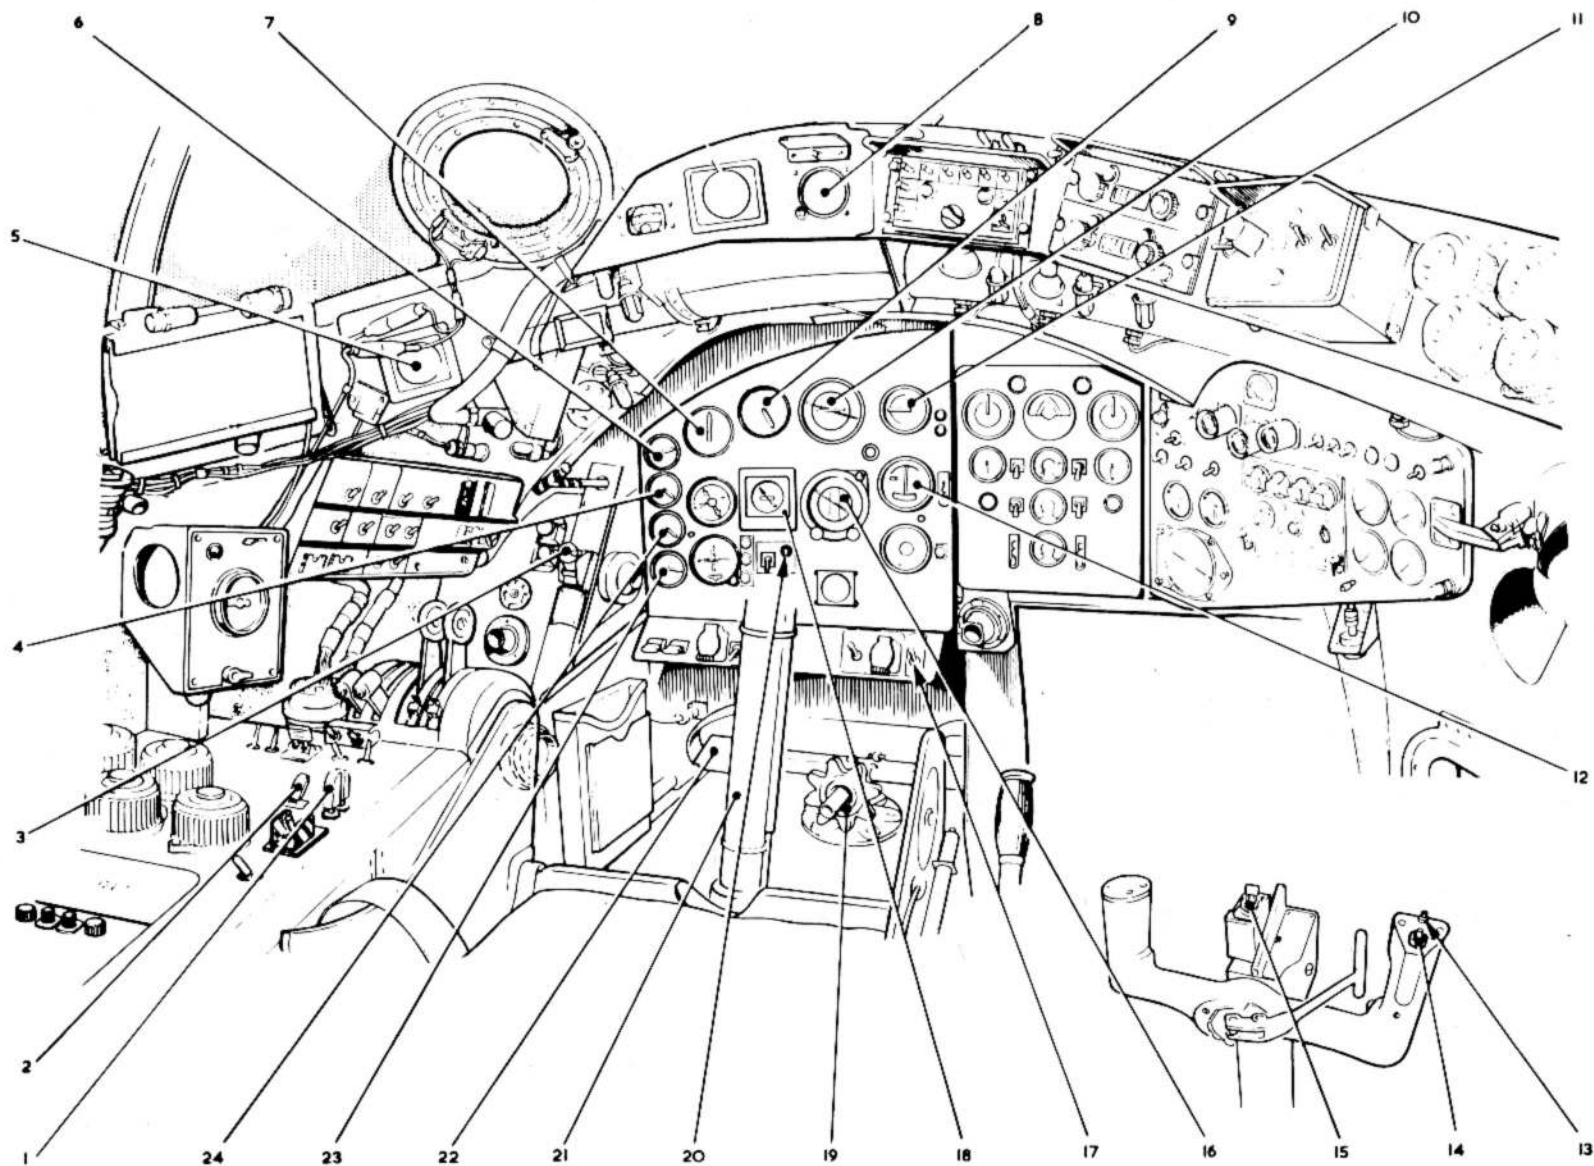

FIG. 1. FLYING CONTROLS AND INSTRUMENTS
**KEY TO FIG.1 (FLYING CONTROLS AND INSTRUMENTS)**
6. The flap selector lock pin is stowed in a small bag attached to the floor structure facing the entrance door. A divided container situated at the forward end of the console on the inboard side provides stowage for the pilot's maps and notes. A stowage block (Mod. 4925) for the pilot's ejection seat safety pins is installed on the cabin starboard wall above the entrance door. A stowage is provided on the coaming panel to accommodate a set of basic ejection drill cards (Sect.1, Chap.3, fig.1). The undercarriage and control surface locks are stowed within a container located on the inside of the battery compartment hatch.